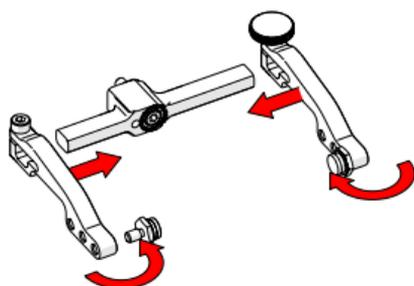

Fig. 83 - Attach arms & move buttons
5. Place the pivot buttons on the inside of the probe holder arms (Fig. 83) using a 3/8 in wrench (Fig. 25).